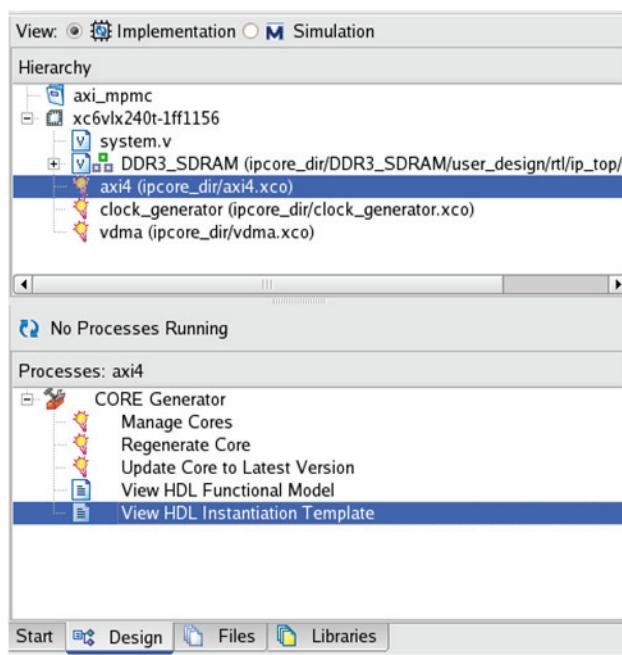

Figure 61: Viewing the HDL Instantiation Template for the AXI Interconnect IP Core
53. Select the **axi4** instance in the Hierarchy pane of Project Navigator, and in the Processes window pane, double-click **CORE Generator** and then click **View HDL Instantiation Template** (Figure 61).